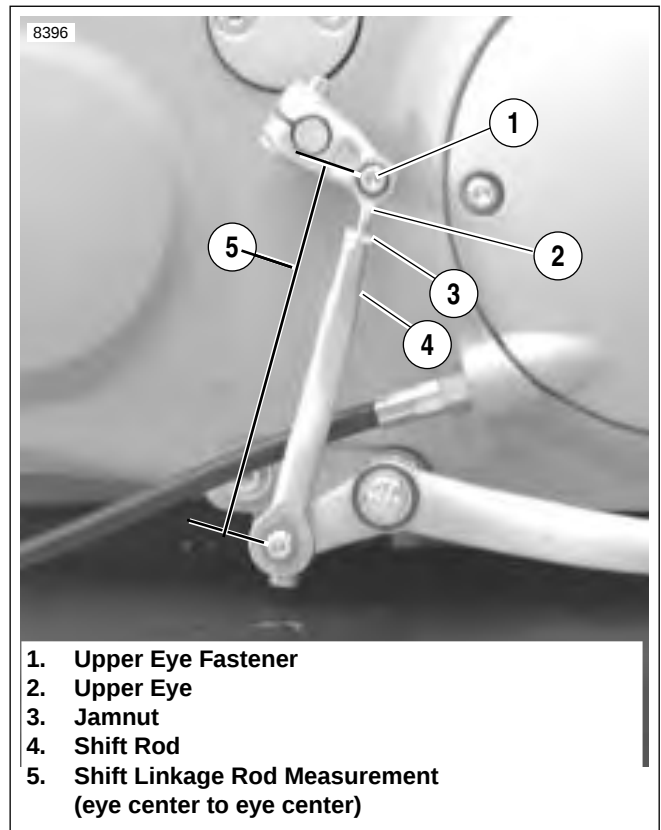

Figure 1-15. Shift Linkage Rod Adjustment
2. See Figure 1-15. Measure the shift linkage rod by measuring the distance from the center of the lower eye to the center of the top eye (5). For settings see Table 1-7.
1. See Figure 1-15. Remove upper eye fastener (1) and upper eye (2) from shift rod (4).
2. Loosen jam nut (3). Rotate upper eye clockwise to shorten, or counterclockwise to lengthen to factory settings of 4.75 in (120.7 mm) or maximum length of 4.88 in (124 mm).